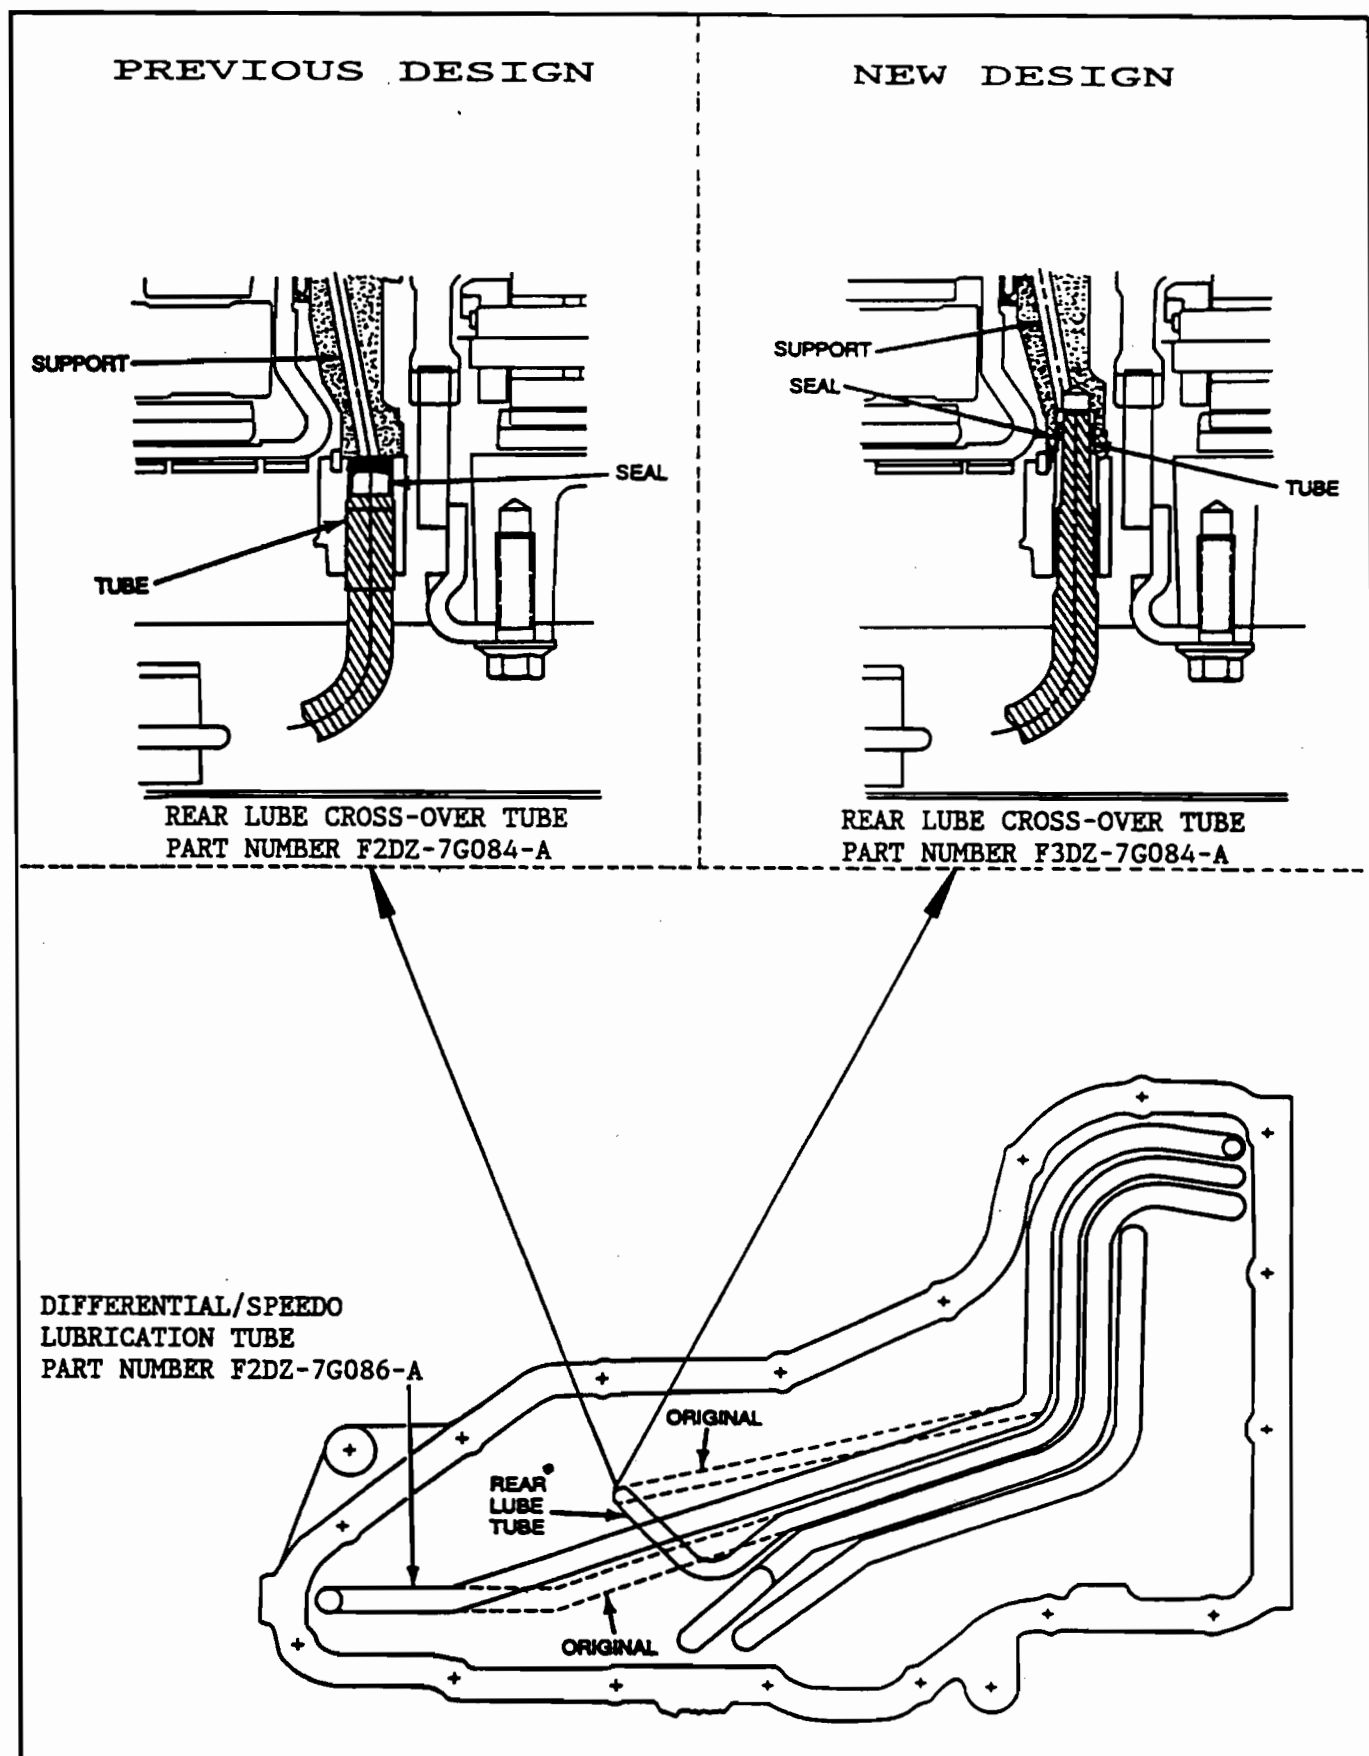

Figure 1
- (1) REAR LUBE CROSS-OVER TUBE—Has a longer, smaller diameter end to pass completely through the case and INTO the revised lube seal, which is now pressed into the rear planetary support see Figure 1.